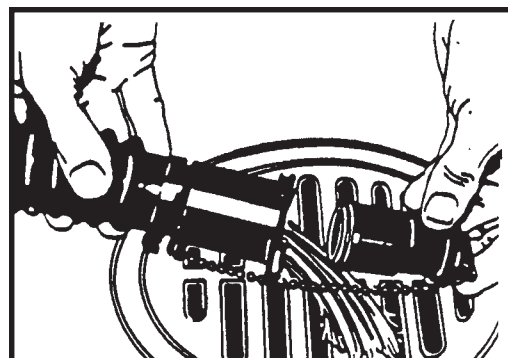

Figure 5
- e. To open the valve completely, turn the handle to the right. Pull the handle out of valve. (Figure 5)